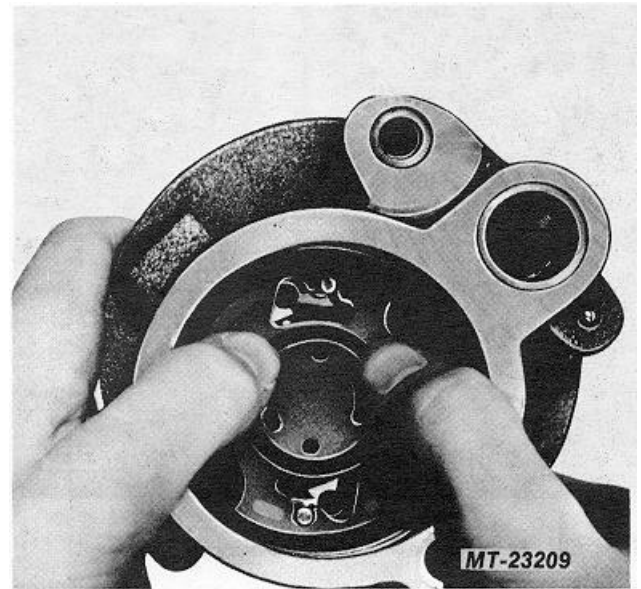

Fig. 30 Seat Pressure Plate
8. Lubricate pressure plate with power steering fluid. Locate plate on dowel pins. Press down to force plate past pressure-plate "O" ring (Fig. 30).